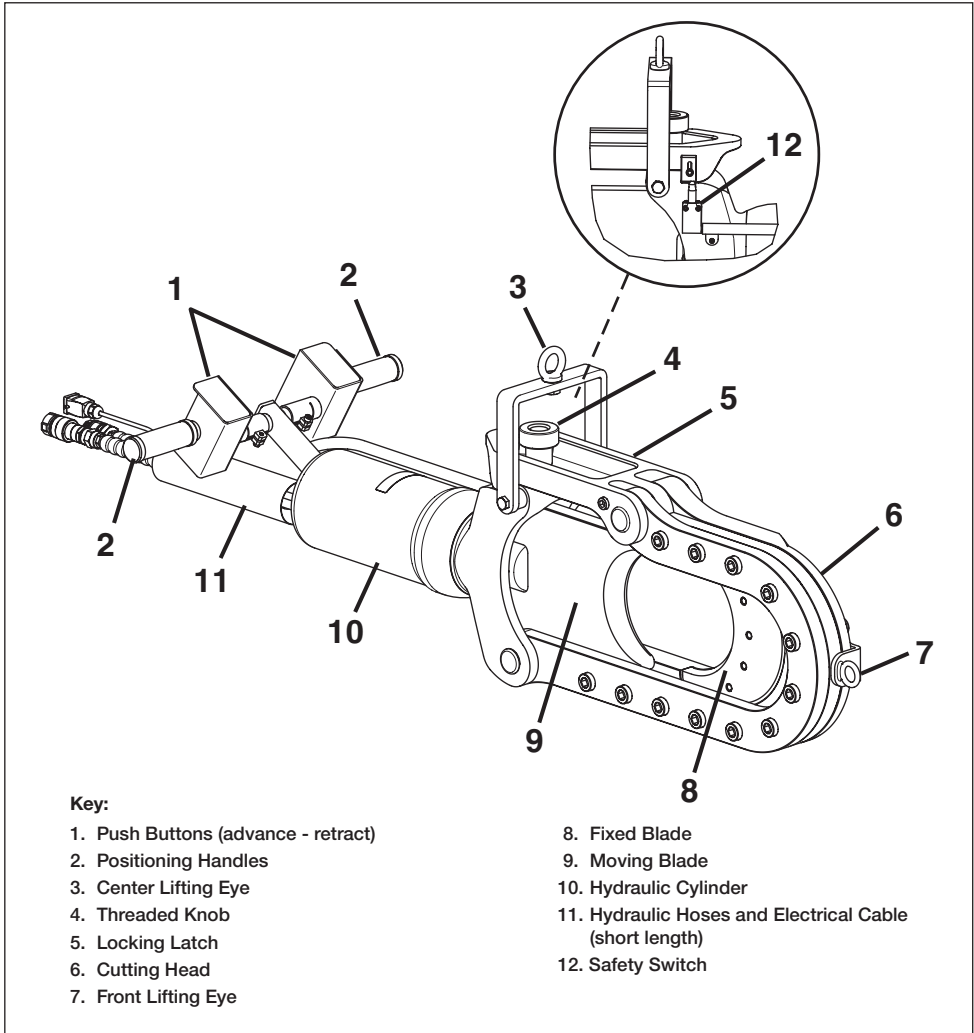

Figure 1, Features and Components
See Figure 1 for a description of cutter major features and typical items included in the shipment. Refer to Section 2.0 for cutter maximum capacities, specifications and dimensions.
- Position the cutter as needed using the cutter positioning handles and appropriately rated lifting equipment (if needed). See Figure 1.